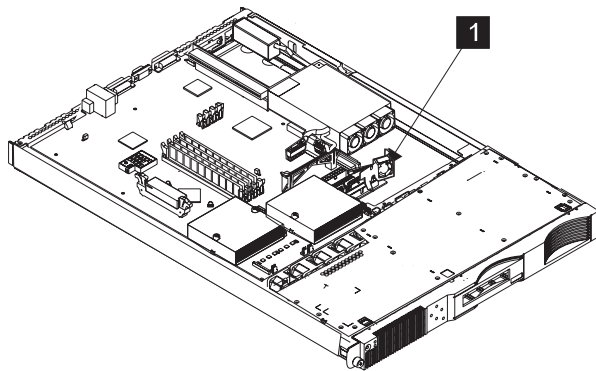

Figure 131. Removing a SAN Volume Controller 2145-4F2 disk drive fan
5. Remove the entire fan assembly **1**, as shown in Figure 131, by sliding the right-hand side of the disk drive fan forward. Then, pull the assembly away from the clip.